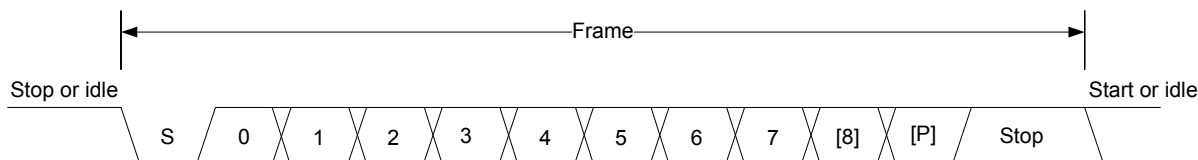

Figure 19.2. LEUART Asynchronous Frame Format
The frame format used by the LEUART consists of a set of data bits in addition to bits for synchronization and optionally a parity bit for error checking. A frame starts with one start-bit (S), where the line is driven low for one bit-period. This signals the start of a frame, and is used for synchronization. Following the start bit are 8 or 9 data bits and an optional parity bit. The data is transmitted with the least significant bit first. Finally, a number of stop-bits, where the line is driven high, end the frame. The frame format is shown in Figure 19.2 LEUART Asynchronous Frame Format on page 584.